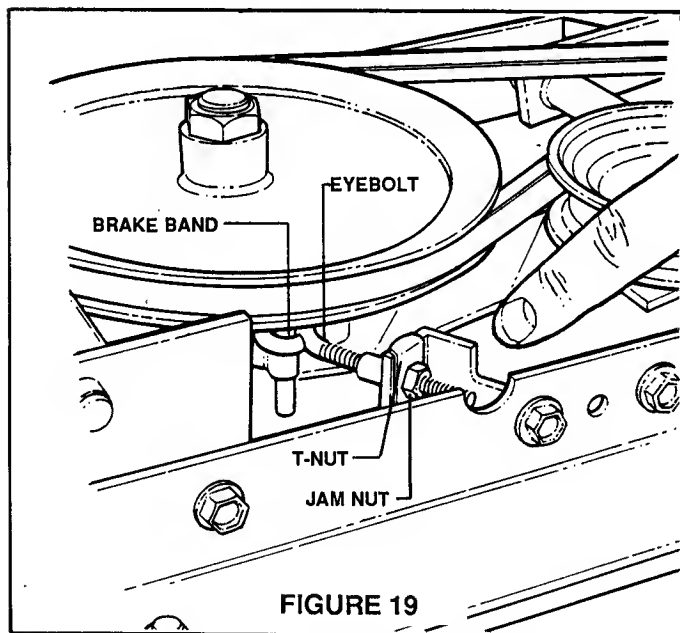

FIGURE 19
4. Tighten BRAKE BAND by loosening jam nut and turning T-nut, on end of eyebolt, clockwise 1 to 2 turns, or until brake band tightens. Make sure flanged lip on T-nut is positioned vertically to fit over top edge of anchor. See Figure 19.